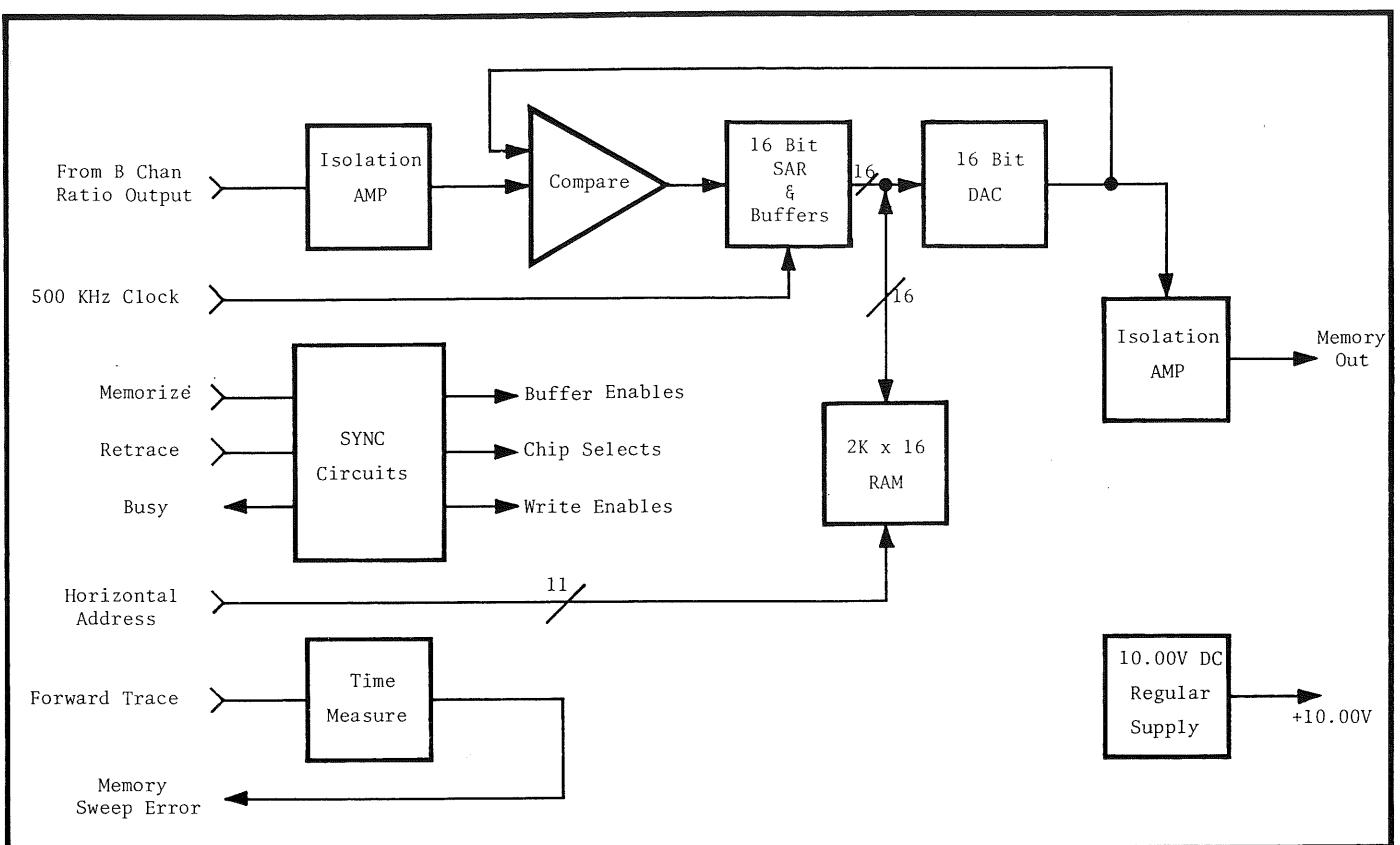

Figure 5-8 B Channel Memory (Bd # A7 - SD 14888)
The operations performed by the B Channel Memory board (Assy. #14887) can be divided into five different functions. Included in these are: (1) Memory Control, (2) A to D Conversion, (3) Random Access Memory (RAM), (4) Reference Voltage Supply and, (5) Sweeping Too Fast signal initiation. (Use Figure 5-8 – Block Diagram – and SD 14888 as aids to better understand the following discussion.)